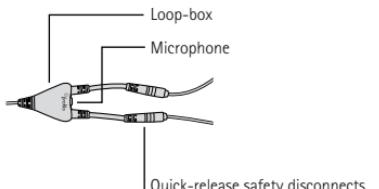

Figure 7
- ▶ Attach the quick-release safety disconnects correctly (figure 7).
The quick-release safety disconnects should be closed correctly to transmit the signal – there should be no gap between the quick-release safety disconnects (figure 7).